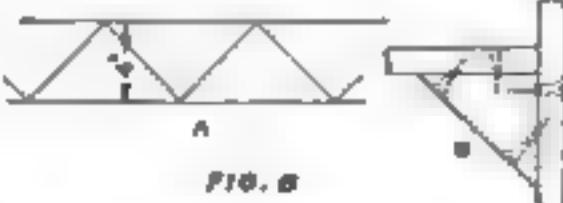

FIG. 6
Yes. Shelves built as suggested in Fig. 6 and fastened with nails or screws.
4. The case may be braced by backboards as in Fig. 6, or with corner blocks as suggested in Fig. 8. A board 4 in. wide is sawed to make blocks as suggested at A, and the blocks are fastened under the top and bottom shelves with glue and $1\frac{1}{2}$ -in. No. 10 screws as at B in Fig. 8.—C. A. K.
Corner blocks held in place with screws may be substituted for the backboards shown in Fig. 6.